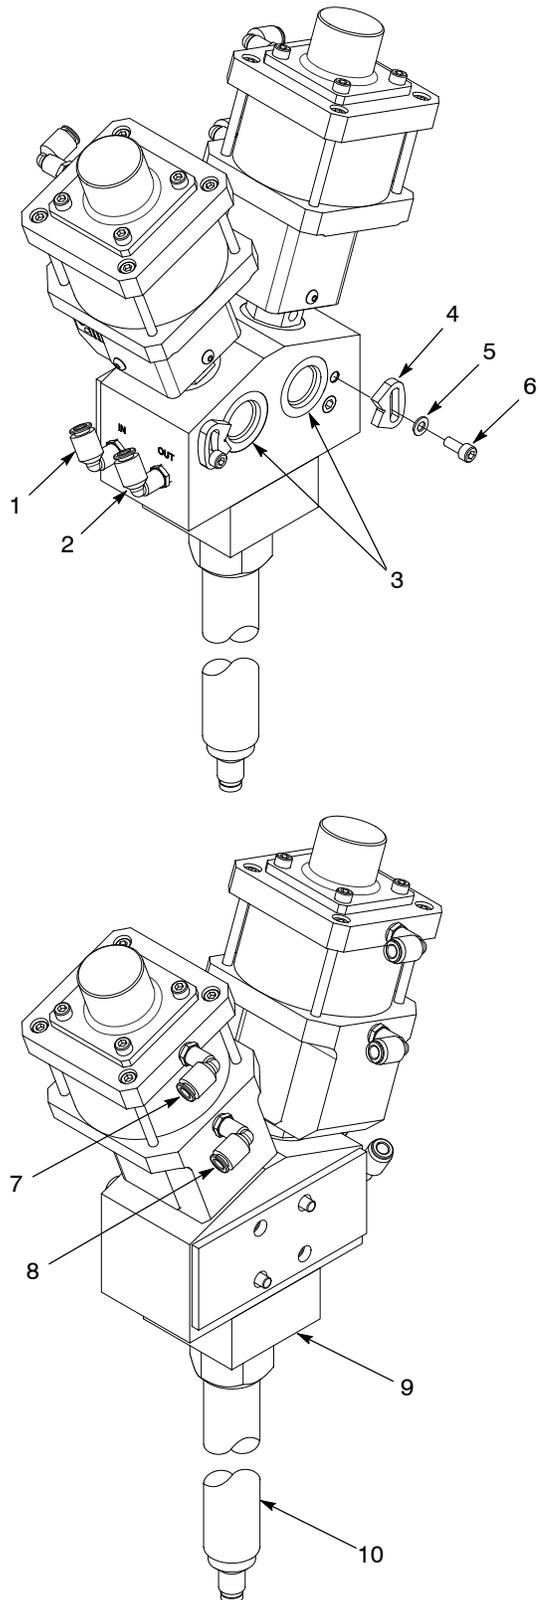

Figure 2 Installation
1. See Figure 2. Connect an air line from the gun-closed solenoid to the elbow at the gun-closed air port (7).
2. Connect an air line from the gun-open solenoid to the elbow at the gun-open air port (8).
2. See Figure 2. Install the material inlet fittings into the material inlet ports (3) and connect the material supply hoses.
3. Install the material supply hose locking keys (4) using the washers (5) and screws (6). Tighten the screws securely.
See Figure 2. To install the temperature conditioning supply lines, connect the coolant tube to the temperature conditioning inlet port (1) and another tube to the temperature conditioning outlet port (2).
See Figure 2. Nozzle adapters (9) and mixer tubes (10) are application specific. Refer to the *Mixer Tubes, Shrouds, and Teach Nuts* section for more information. If necessary, contact a Nordson representative for assistance in selecting and installing the appropriate nozzle for the application.